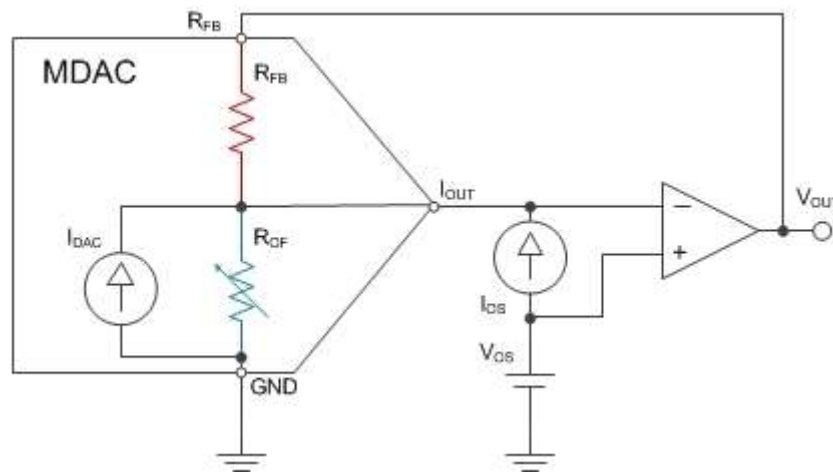

Figure 1: Simplified MDAC model
- V_{OS} is a bit more difficult to explain. Looking at the simplified model of the MDAC in Figure 1, you can see that V_{OS} will observe a noninverting gain of $1 + R_{FB} / R_{OF}$. R_{FB} is a constant term that you can find in the data sheet of your DAC, while R_{OF} is a value that changes with the output code of the DAC.